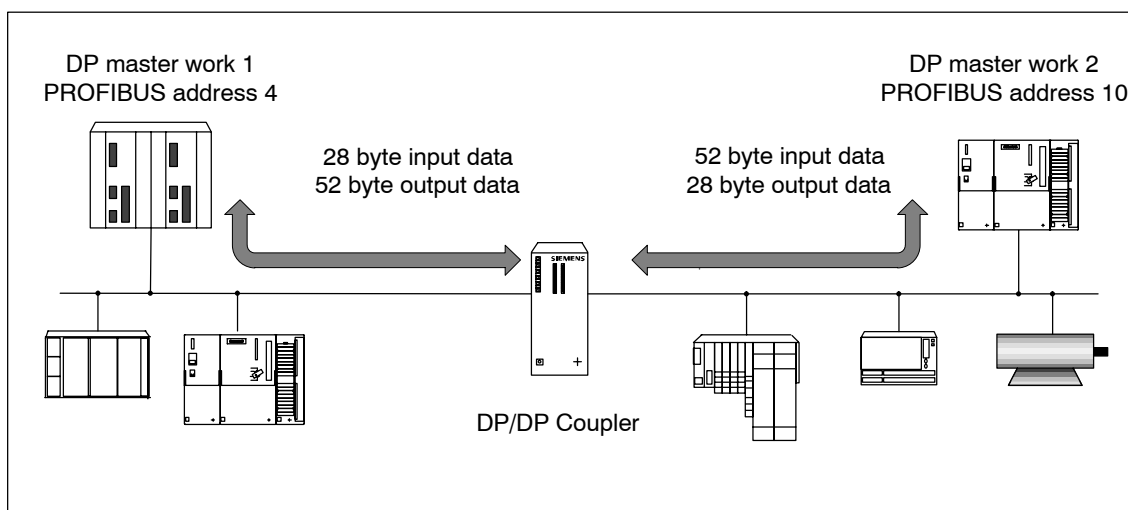

Figure 6-5 Example of the analysis of diagnostics data from the DP/DP Coupler
- Figure 6-5 shows an example of the structure for diagnostic data analysis.